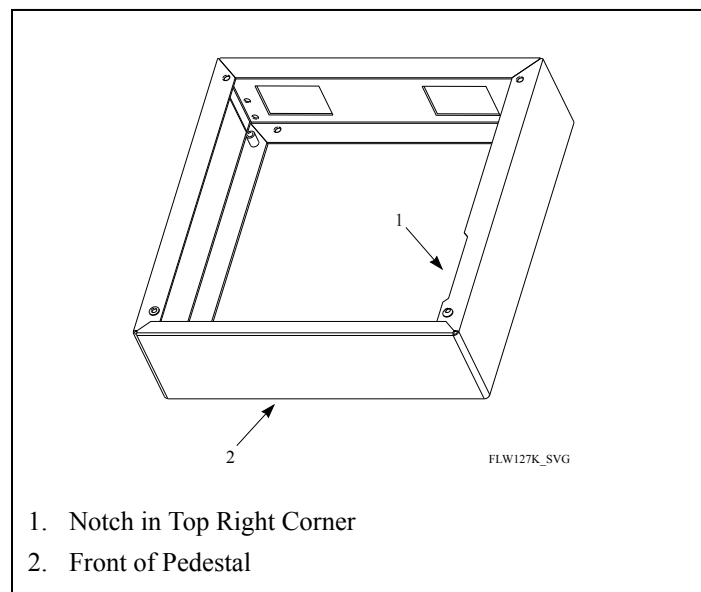

Figure 2
7. Place pedestal into desired final location. Position pedestal so the notch is in the top right corner. Refer to *Figure 2*.
9. Place pedestal into desired final location. Position pedestal so the notch is in the top right corner. Refer to *Figure 2*.